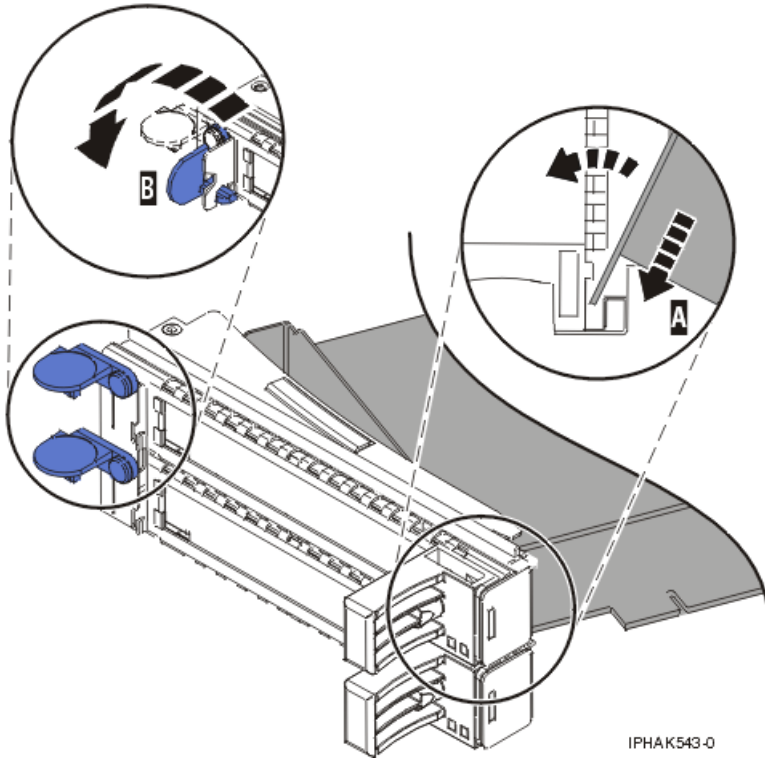
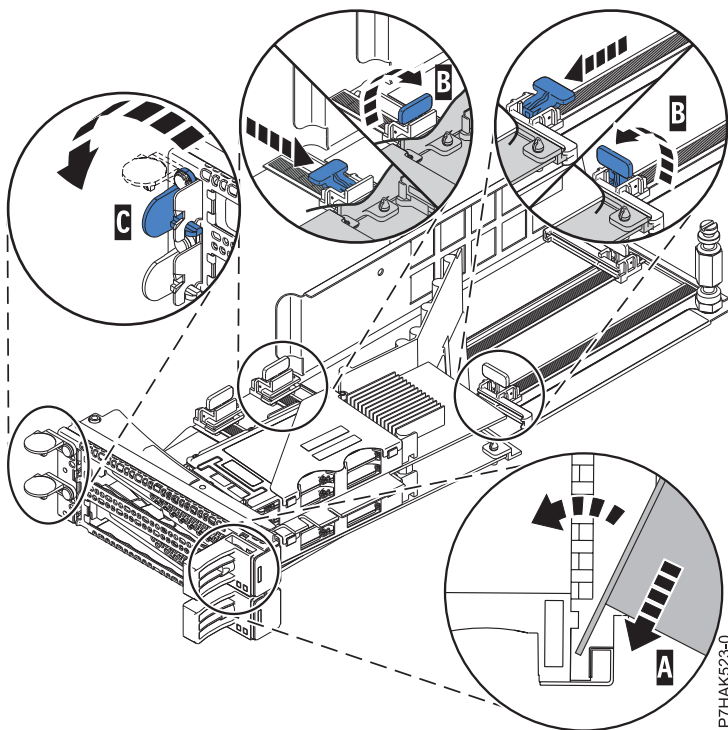

Figure 51. Adapter replaced in the PCI adapter cassette
Figure 52. Replacing a PCIe RAID and SSD SAS adapter into the PCI adapter cassette
- a. With the tailstock clamp in the open position, insert the adapter firmly into the tailstock retaining channel (A). For a typical PCI adapter, see Figure 51 on page 68. For a PCIe RAID and SSD SAS adapter, see Figure 52 on page 68.
- c. Close the tailstock clamp (C).